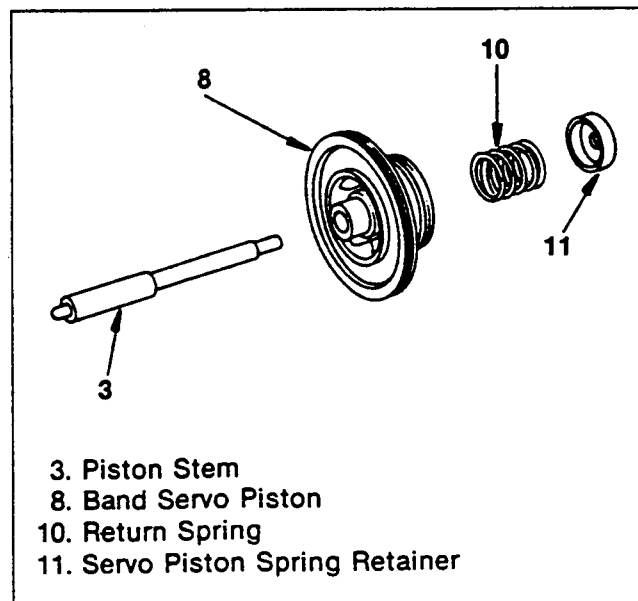

Figure 220. Piston Stem Installation (1)
4. Fit the servo piston spring retainer, return spring and piston stem to the band servo piston (figure 220).